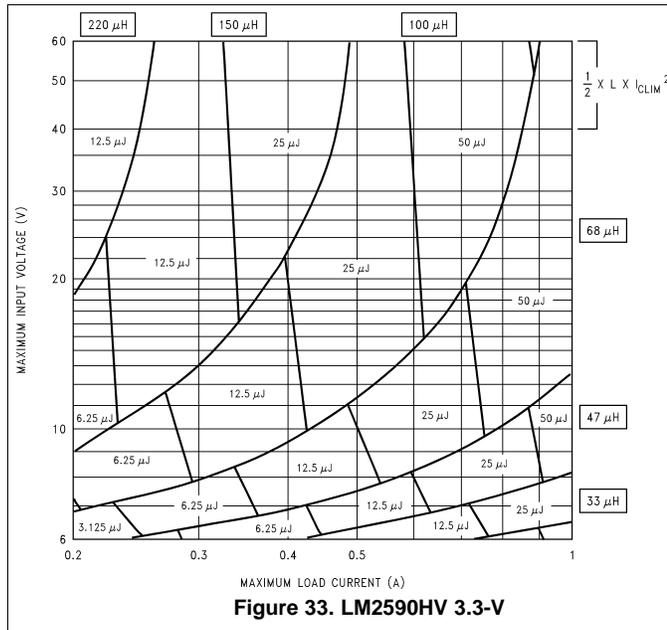
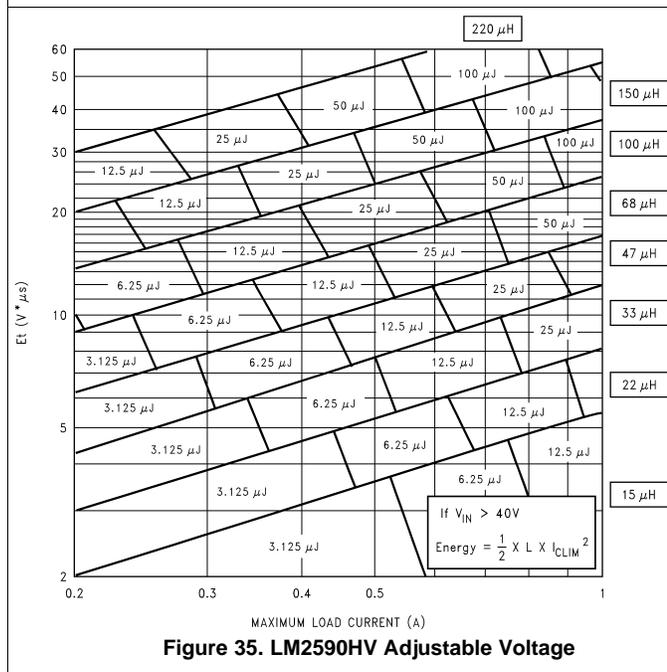

Figure 33. LM2590HV 3.3-V
Figure 35. LM2590HV Adjustable Voltage
For a quick-start, refer to the nomographs provided in Figure 33 to Figure 35. To widen the choices to a more general selection of available inductors, the nomographs provide the required inductance and also the energy in the core expressed in microjoules (μJ), as an alternative to just prescribing custom parts. The following points need to be highlighted:
5. Figure 35 shows the inductor selection curves for the Adjustable version. The y-axis is Et , in $V\mu\text{secs}$. It is the applied volts across the inductor during the ON time of the switch ($V_{\text{IN}} - V_{\text{SAT}} - V_{\text{OUT}}$) multiplied by the time for which the switch is on in μsecs . See Example 3.
- Since input voltage is less than 40 V, a first pass inductor selection is based upon Inductance and rated max load current. We choose an inductor with the Inductance value indicated by the nomograph Figure 35 and a current rating equal to the maximum load. But we first need to calculate Et for the given application. The Duty cycle is Equation 5.
- Therefore, looking at Figure 33, quick-select a 47- μ H, 2-A inductor (designed for 150 kHz operation) for this application.
- Confirm that it is rated to handle 200 μ J (see Figure 35) by the procedure shown in AN-1197 Selecting Inductors for Buck Converters (SNVA038) and that the losses are acceptable. (If the DC Input voltage had been greater than 40 V we would need to consider e_{CLIM} as in Example 2). This completes the simplified inductor selection procedure. For more general applications and better optimization, refer to AN-1197 Selecting Inductors for Buck Converters (SNVA038).